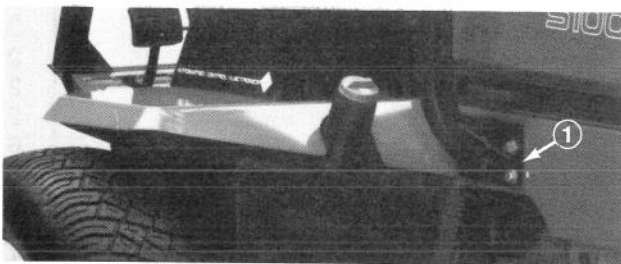

Figure 4
INSTALL ROLL BAR (Fig. 4–5) (Model 03531 only)
2. Secure each side of roll bar to frame with (3) 1/2 x 13 – 1–1/4" lg. capscrews, 1/2" flatwashers and 1/2" lockwashers (Fig. 4).